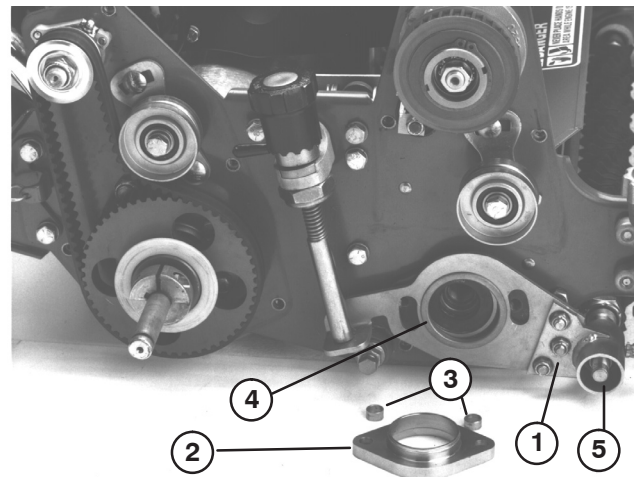

Figure 9
- A. Insert an adapter ring into the reel bearing housing (Fig. 9).
- B. Slide the groomer plate assembly over the end of the groomer shaft (Fig. 9).
- C. Insert the two 3/8 x 2" lg. flat head screws through the groomer arm cover and the bearing adapter. Put a spacer over each screw before positioning the adapter into the reel bearing housing. Slide the adapter through the bronze bearing in the groomer plate assembly and into the reel bearing housing. Install the locknuts on the flat head screws and torque them to 23 to 27 ft-lb (Fig. 9).
- D. Secure the right end of the groomer shaft to the groomer plate assembly with a 1/2 in. locknut (Left hand thread) Torque the locknut to 29 to 35 ft-lb (Fig. 9).
22. Mount the groomer adjustment knob assembly to the right side plate with the 3/8 x 5/8" lg. capscrew and Belleville washer previously removed (Fig. 9).
24. Check the tension on the drive belt by depressing it at the midpoint between the drive pulley and the driven pulley (Fig. 9). A force of 5 to 10 lbs. should be required to depress the midpoint of the belt 1/4 inch. To adjust tension, loosen the backside idler pulley pivot allen head bolt, pivot the idler to achieve the proper tension, and torque the allen head bolt to 7 to 10 ft-lbs.